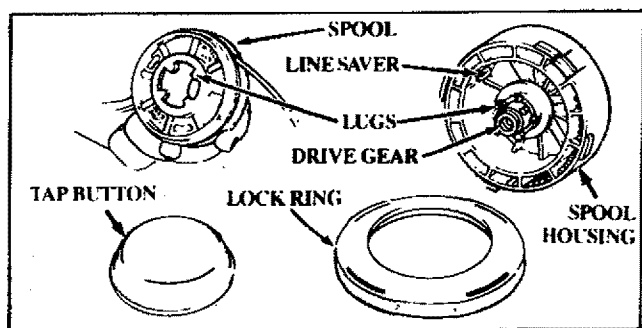

Figure 19
- b. Remove the lock ring, tap button, and spool. Figure 19.
**NOTE:** After a groove is worn into one side of the aluminum line saver, the line saver can be turned upside down and reinstalled (with the spool removed) to provide a new wear surface. Figures 19 & 20.